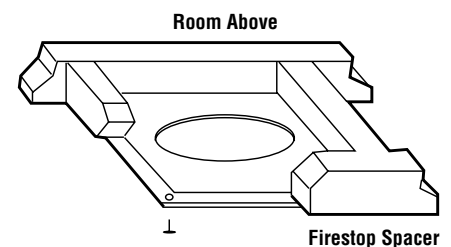
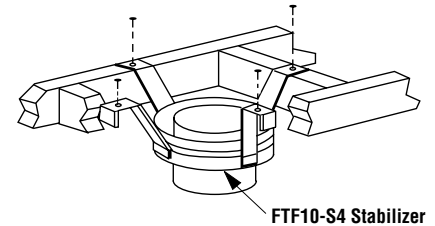

Figure 21
Figure 27
Note: If there is a room above ceiling level, firestop spacer must be installed on the bottom side of the ceiling. If an attic is above ceiling level, firestop spacer must be installed on top side of ceiling joist (Figures 21 and 22).
Install the Model FTF10-S4 stabilizer by fitting inner section down into respective section of proceeding flue pipe and locking outer stabilizer section into place over the outer chimney pipe. Position for proper clearance through framed opening and fasten straps securely (under tension in "shear") into place on framing. Use 8d nails or equivalent. Attach successive lengths of chimney pipe directly to stabilizer using same techniques as described in Step 4 (Figure 27).
Step 1. Use Offset Chart to determine amount of horizontal offset (A) and height (B) for various chimney section assemblies.
Step 3. Use Elevation Chart as job estimator only. Add necessary firestop spacers and stabilizers as required. Firestop spacers must be used as shown in Figures 21 and 22 and stabilizers as shown in Figure 27.